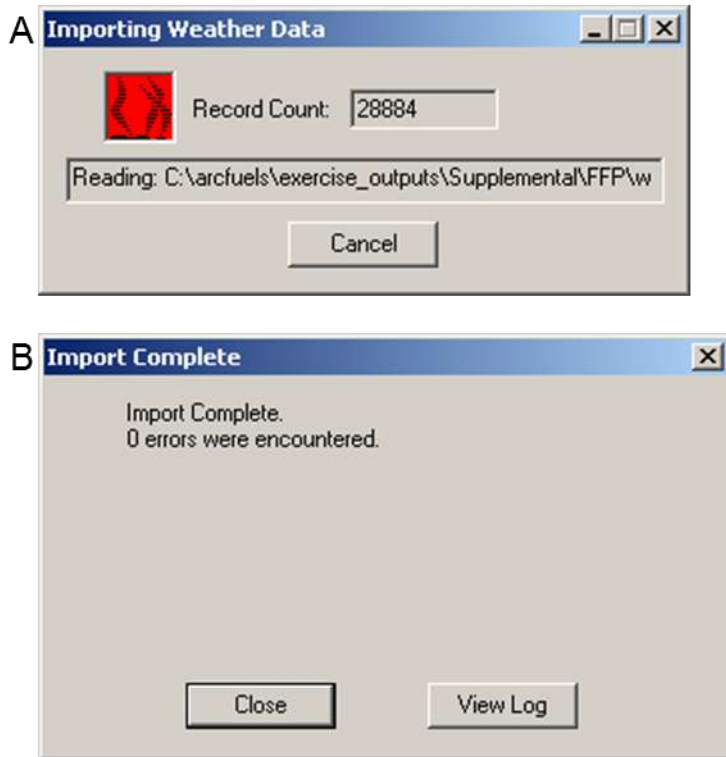

Figure 3-16—Progress meter (A) and completion (B) windows.
- b) Next the weather data will be imported. Click the **Old Fwx Files** button. Navigate to and open the wxobs72a!351518!01-JAN-1985!30-AUG-2012.fwx file from the outputs folder in the ArcFuels directory. A progress window will open and when import is complete a window will open indicating it is done (fig. 3-16). Click **Close** to close the window.